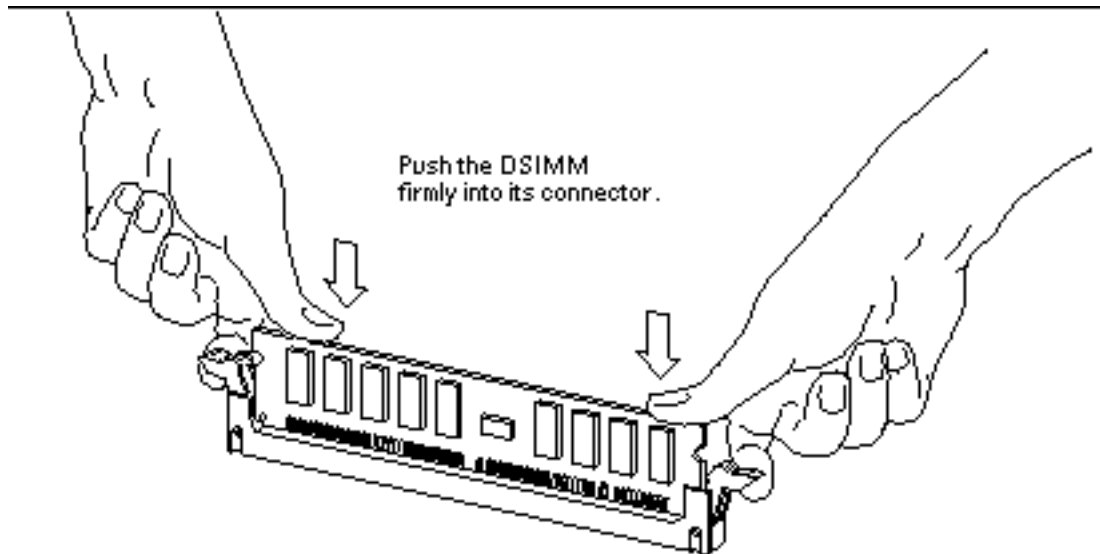

Figure 11-22 Installing the DSIMM
- 4. Place your thumbs as shown in Figure 11-22 and push the DSIMM firmly into its connector.**